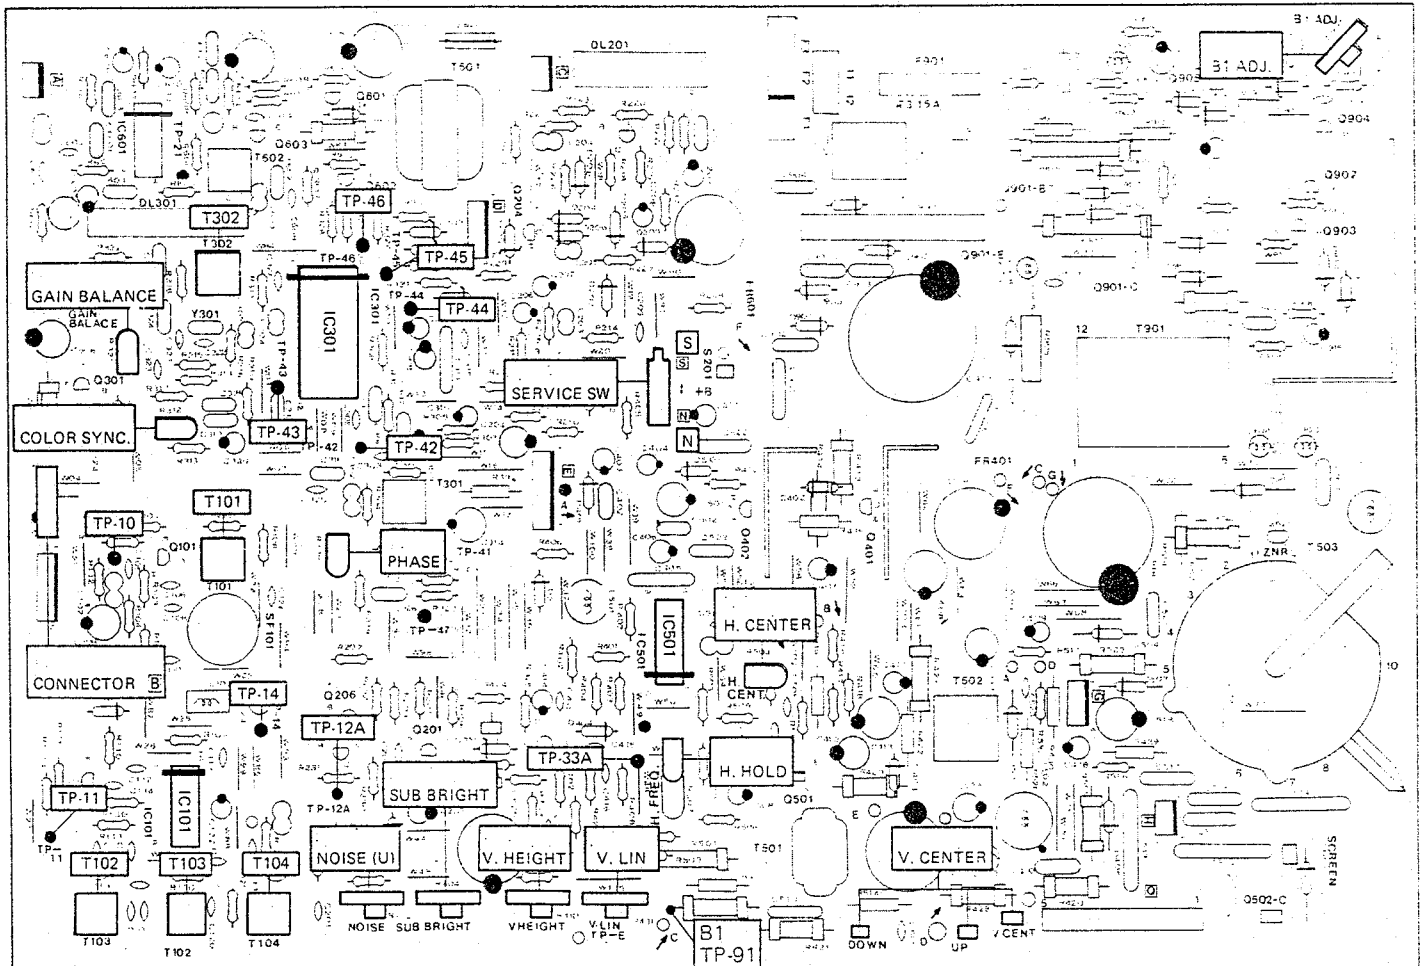

Fig. 15
The regulated +B1 control (See Fig. 15) has been factory adjusted and normally requires no adjustment. However, if any repairs have been made to the chassis it's recommended that this adjustment should be made.
3. Connect an accurate D.C. voltmeter to TP-91 as is shown in Fig. 15.